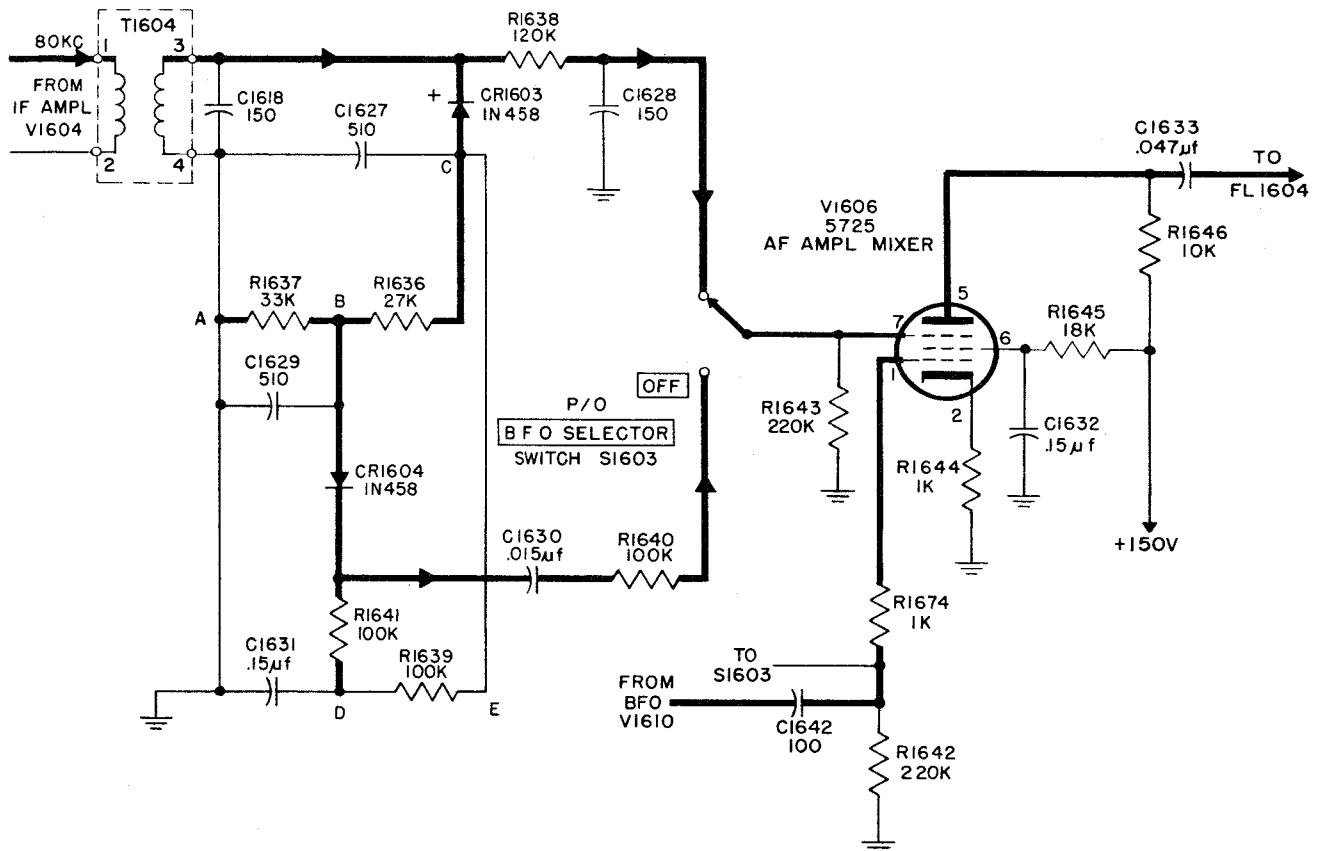

Figure 4-21. Detector CR1603 and Automatic Noise Limiter CR1604, Simplified Schematic Diagram
c. DETECTOR CR1603, AUTOMATIC NOISE LIMITER CR1604. (See figure 4-21.)—The 80 kc output developed at T1604 (plate load of IF amplifier V1604) is applied to CR1603, which is used in a conventional diode detector circuit. The output of the detector is developed across load resistors R1636 and R1637 and applied to the B.F.O. SELECTOR switch (S1603), on the upper demodulator panel, through a filter network consisting of R1638 and C1628. Also associated with the detector is a series-connected automatic noise limiter, CR1604, which limits voltage surges. The noise limiter becomes a functional part of the receiver only when the B.F.O. SELECTOR switch is in the OFF position.
d. AF AMPLIFIER V1606. (See figure 4-21.)—The input at pin 7 of AF amplifier V1606 is connected to either of two detector outputs, depending on whether the detector is used alone or in conjunction with the automatic noise limiter, as selected by the B.F.O. SELECTOR switch. A second input, applied at pin 1, is developed by BFO V1610 for all modes of receiver operation except modulated continuous wave (MCW) and amplitude modulation (AM), when V1606 operates as a conventional AF amplifier. The output of V1606 is developed across R1646 and is coupled to audio filter FL1604, through coupling capacitor C1633.